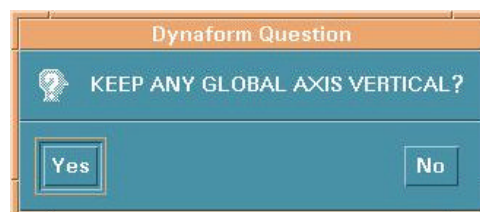

Figure 11.5.1 Axis Question
- A DYNAFORM Question appears, see Figure 11.5.1.
- If select YES in the figure 11.5.1 The SELECT OPTION window appears, see Figure 11.5.2.